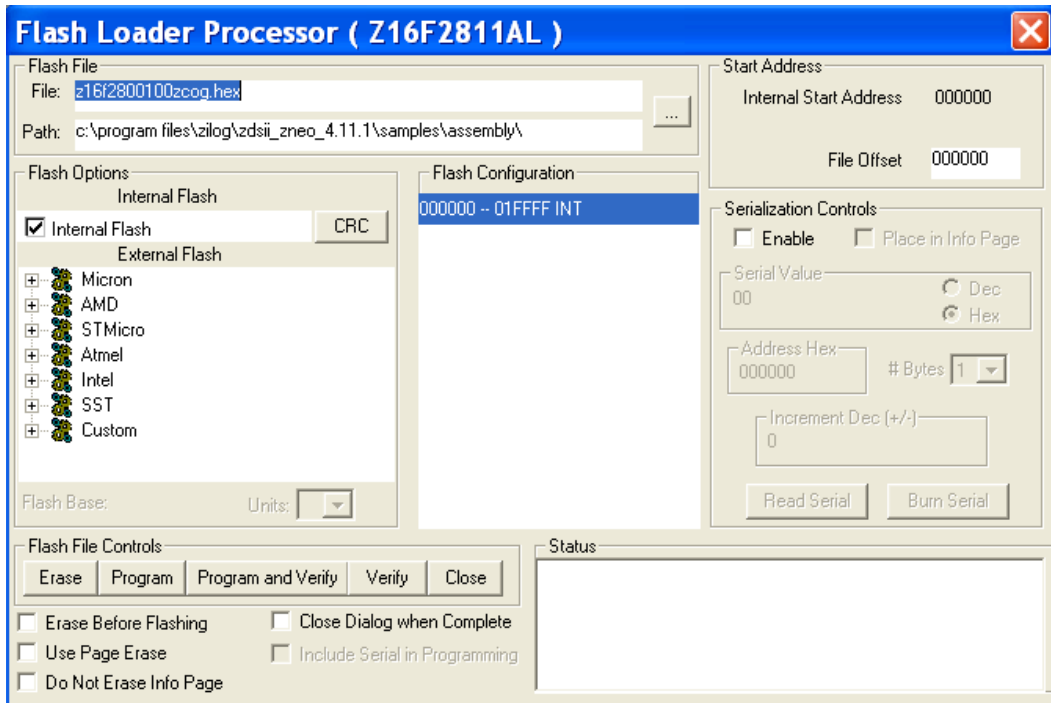

Figure 6. Flash Loader Window
3. Select **Tools** → **Flash Loader** to run the Flash Loader. The **Flash Loader** window is displayed. See Figure 6 on page 15.